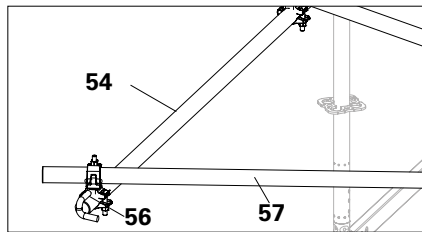

Fig. A4.05
3. Fix scaffolding tubes (**57**) to the Wall Ties UWT 140 using swivel couplings (**56**). (Fig. A4.05)